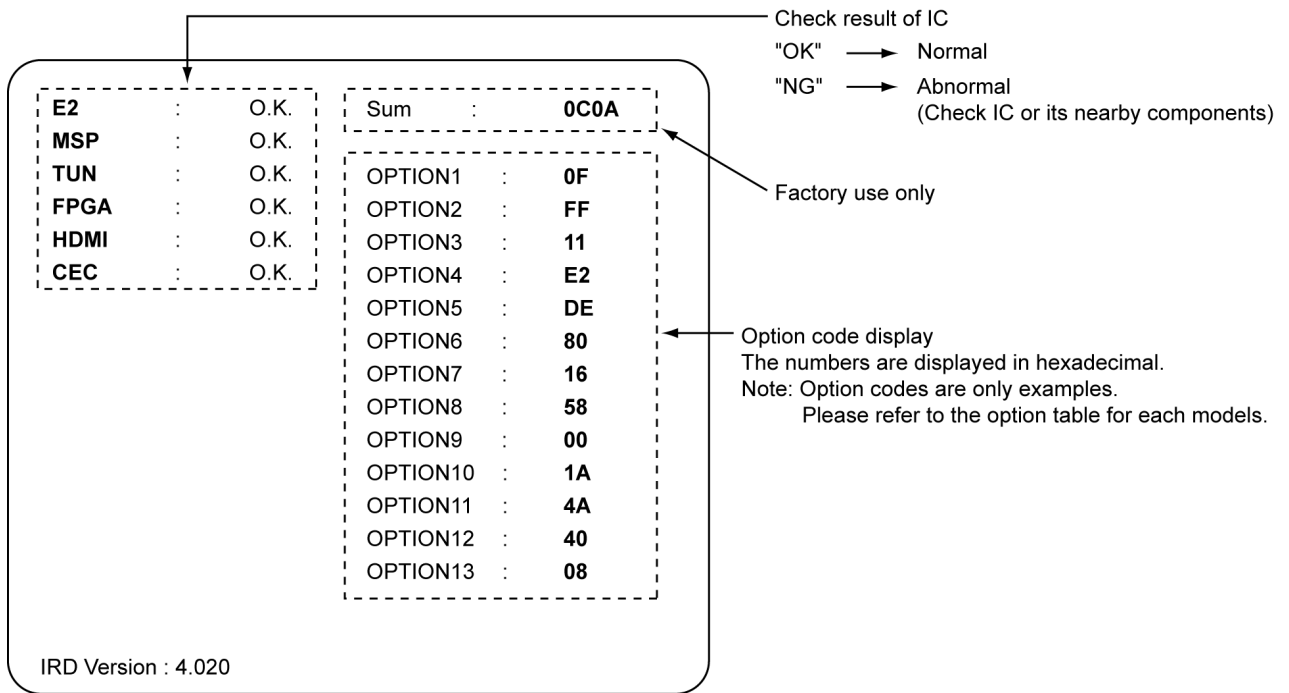

Figure 4
2. To get into the Self Check mode, press the "DOWN" button on the customer's controls at the front of the set, at the same time pressing the "MENU" button on the remote control. The screen that will show is represented by Figure 4.